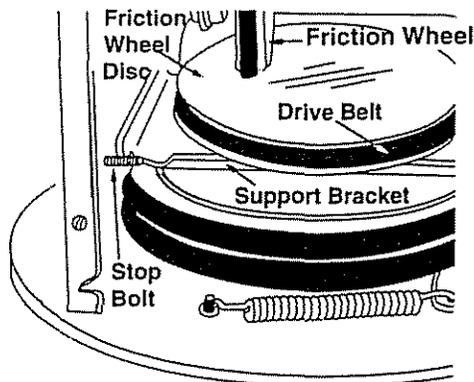

Figure 18
7. Back out the stop bolt until the support bracket rests on the auger pulley. See Figure 18.
3. Back out the stop bolt until the support bracket rests on the auger pulley. See Figure 18.
4. Slip belt between friction wheel and friction wheel disc. See Figure 18. Remove and replace belt. Reassemble following the instructions in reverse order.
**NOTE:** The support bracket must rest on the stop bolt after the new belt has been assembled. See Figure 18.